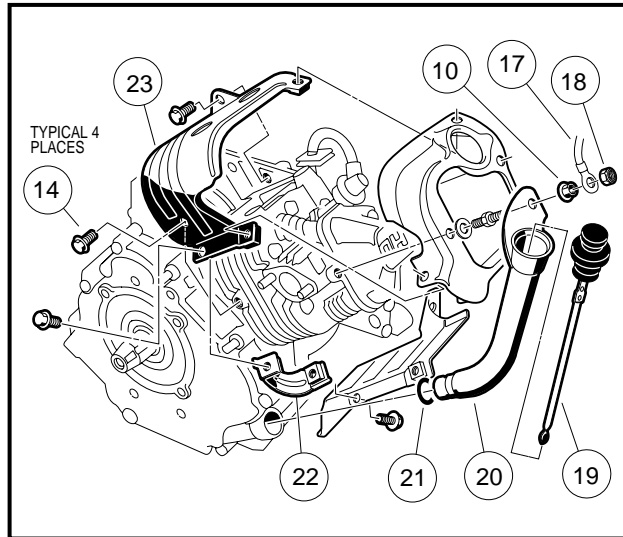

Figure 13-8 Upper Shroud and Oil Filler Removal
10. Disconnect oil filler tube (20) from cylinder shroud by first removing the locknut (18), ground wire (17) and flange nut (10) and then pulling oil filler tube out of the crankcase cover (**Figure 13-8, Page 13-10**).
11. Remove the nine bolts (14) and two-ended bolt (11) (**Figures 13-8 and 13-9, Page 13-10**).
12. Take off the head shroud (13), the upper shroud (23) and the bracket (22).